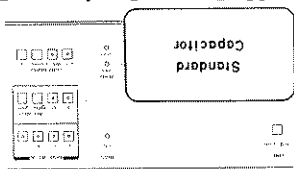

Figure 5-13. A1 Range Resistor Phase Adjustment.
c. Connect 10pF Standard Capacitor (16382A) to 4274A as shown in Figure 5-13 and adjust A1C11 (100kΩ) until display counts are within  $.0000\mu\text{s} \pm 4\%$  counts for Display A.